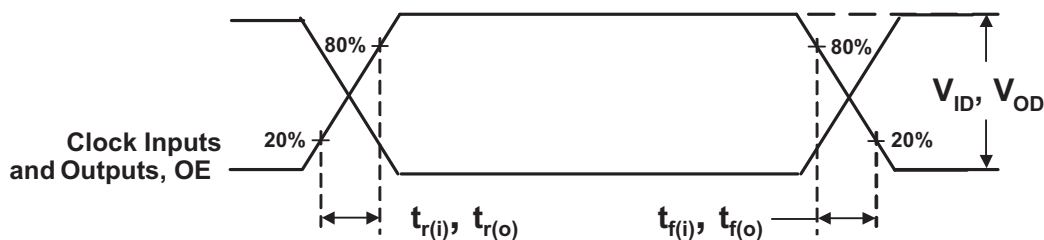

Figure 9. Input and Output Slew Rates
(1) V_{OD} is the magnitude of the difference between the true and complimentary outputs. See Figure 9 for a definition.(2) Total $I_{DD} = I_{DDQ} + I_{ADD} = f_{CK} \times C_{PD} \times V_{DDQ}$, solving for $C_{PD} = (I_{DDQ} + I_{ADD}) / (f_{CK} \times V_{DDQ})$ where f_{CK} is the input frequency, V_{DDQ} is the power supply, and C_{PD} is the power dissipation capacitance.